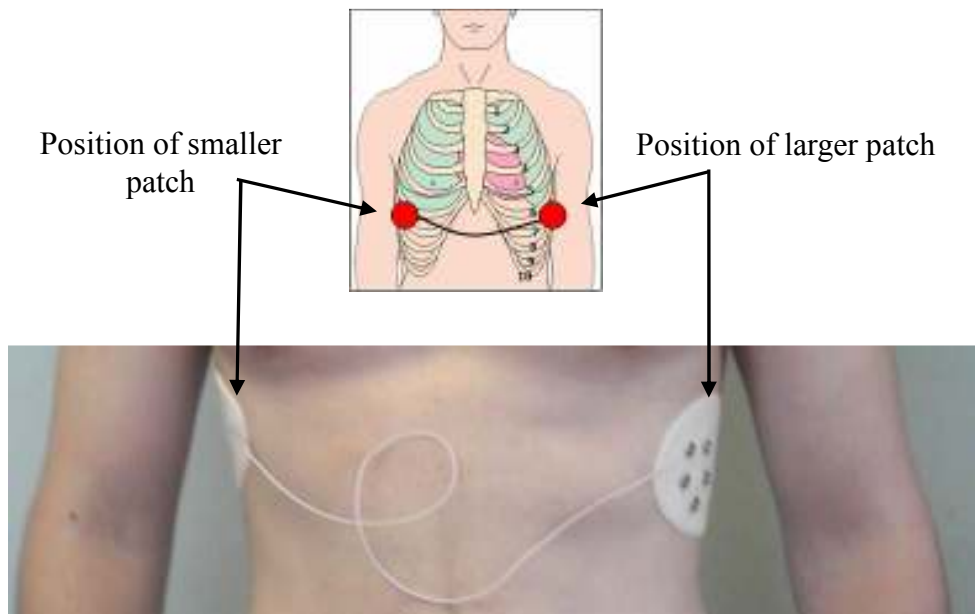

Figure 6. *Electrode Measurement Site*
- The Electrode Array must be applied to the patient in as shown in Figure 6 below.